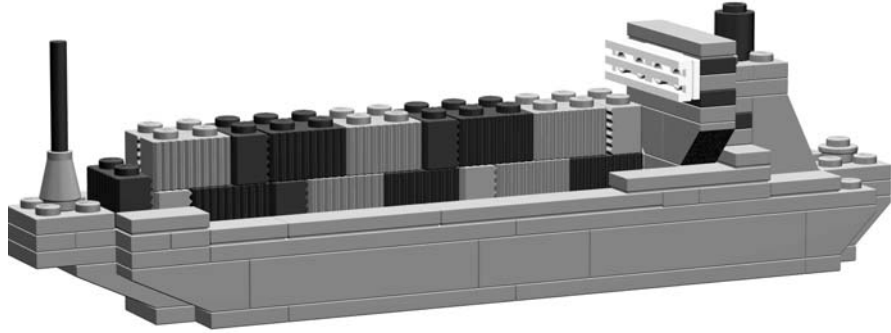

Figure 6-1: Microscale works well when the real life inspiration is huge.
Figure 6-1 shows an example of the type of subject matter you might explore when building at this scale.
**NOTE** *You can find complete instructions for both the cargo ship in Figure 6-1 and the Empire State Building in Figure 6-7 at [www.apotome.com/instructions.html](http://www.apotome.com/instructions.html).*